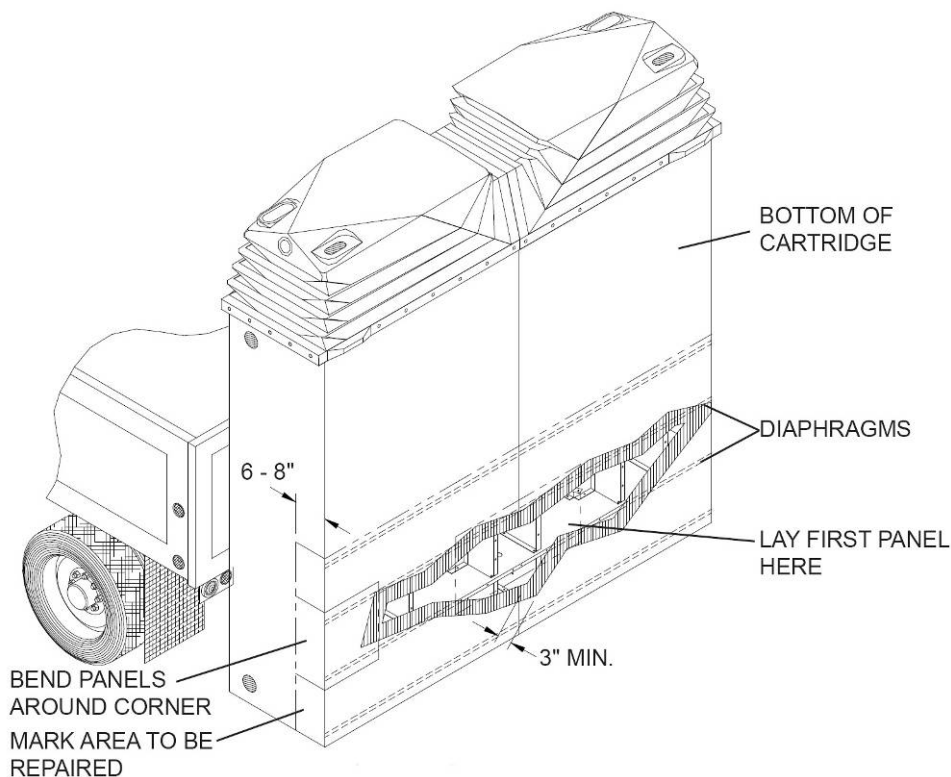

Figure 1
(Refer to Figures 1 & 2)
- 6) Using up to 5 sheets*, cover the entire width of the underside of the cartridge and up the sides approximately 6" to 8", spanning lengthwise, two interior ribs or "diaphragms", one on either side of affected area (see Figure 1).